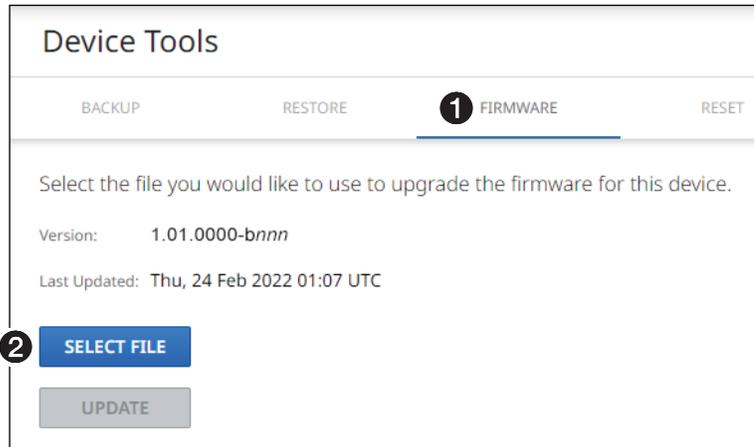

Figure 24. Tools – Firmware Function
1. On the Device Tools page, click **FIRMWARE** (see figure 24, ❶).